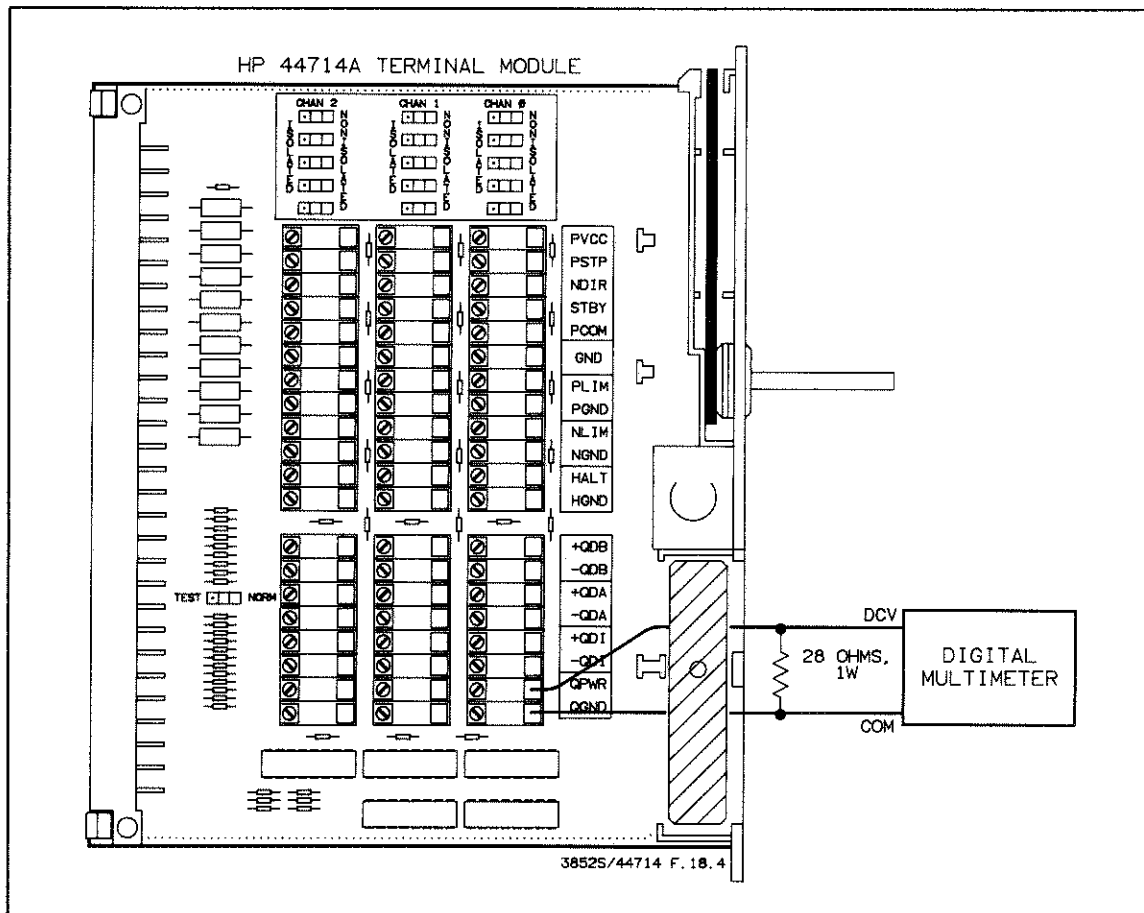

Figure 18-4 QPWR Power Supply Test Connection
2. Refer to Figure 18-4. Connect a 28Ω, 1 W resistor between the DCV (HI) and COM (LO) terminals of a digital multimeter. Connect the DCV input of the multimeter to the QPWR connection and the COM (LO) input to the QGND connection on the terminal module.